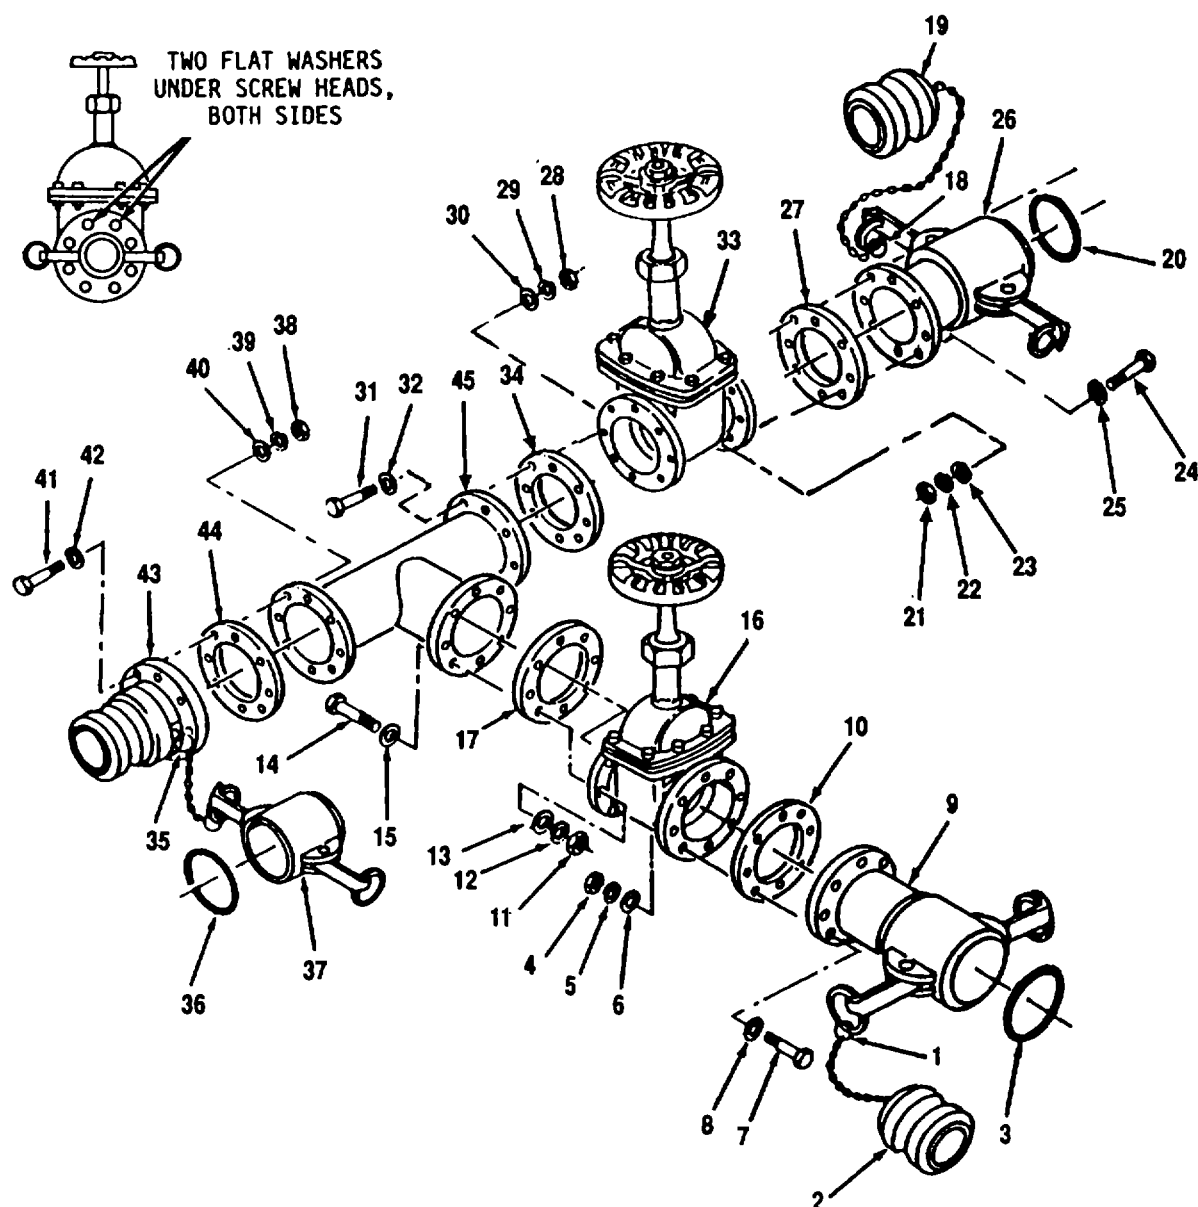

Figure 4-13. Tee and Dual Gate Valve Assembly (9148-Y1) Assembly
e. Assembly. Refer to Figure 4-13.
- (1) Position gasket (44) and male coupling (43) on tee (45).
- (2) Install eight flat washers (42), screws (41), flat washers (40), lockwashers (39) and nuts (38).